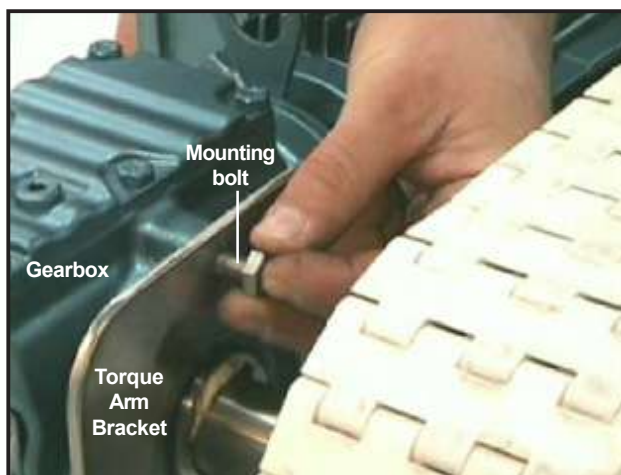

Figure 39: Install and tighten four mounting bolts
- Install and tighten the four bolts that hold the gearmotor to the torque arm bracket (*Figure 39*).